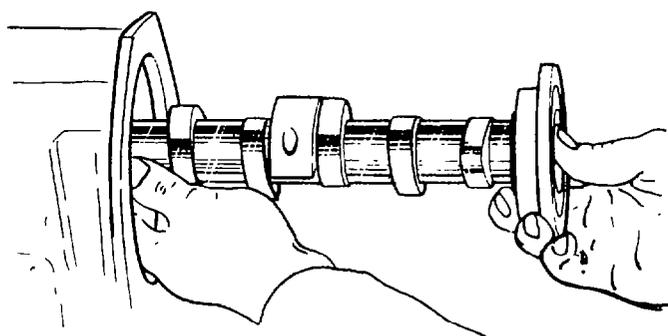

Fig. 107 — Installing Camshaft
- ag. Assemble the front bearing plate (item 2) with the shims (item 3) and the bearing outer race (part of item 4) to the housing (item 7). Torque the screws (item 1) to 12.0 – 13.0 Nm (105 – 115 lb in.).
- ah. Apply a heavy coat of grease, XG-274, to the centre bearing journal of the camshaft (item 6) and the mating surface of the centre bearing (item 30).
- ai. Assemble the centre bearing (item 30) to the bearing journal of the camshaft.
- aj. Carefully slide the camshaft (item 6), rear bearing (item 45) and bearing retaining plate (item 43) with shims (item 44), into the housing as shown in fig. 107.